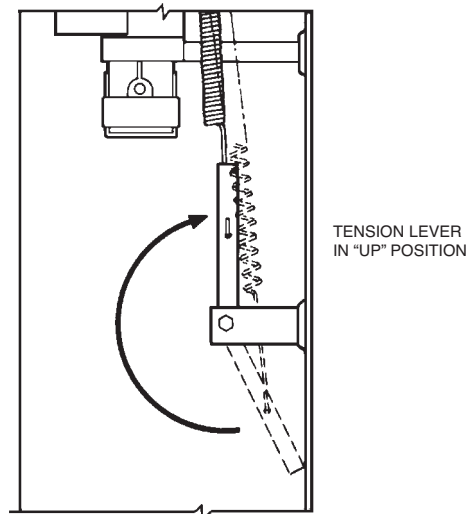

FIGURE 5
17. Raise tension lever to "UP" position. See Figure 5.